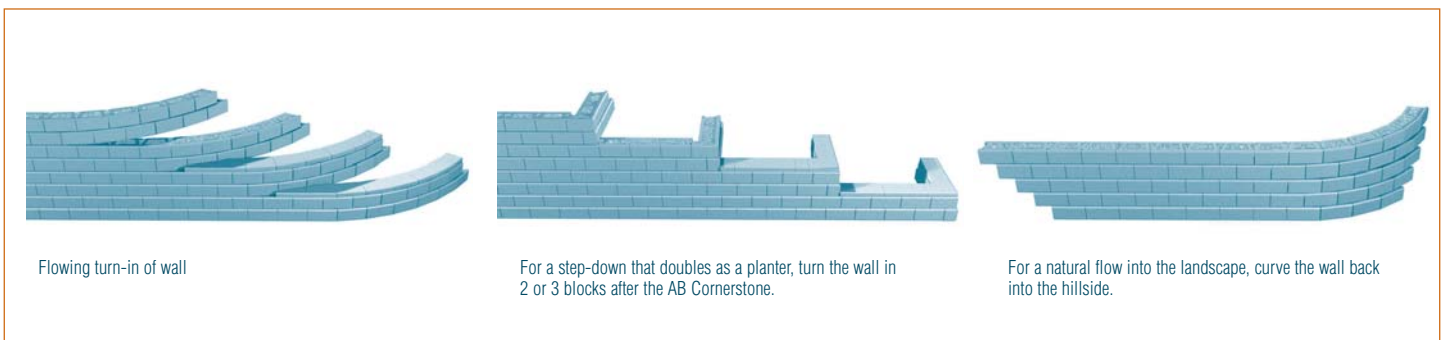

Figure 13: Final Grading & Topping Off the Wall Options
Walls with step down can be easily finished by turning the ends back into the hillside (Figure 13), or using a cornerstone with a split end as the last unit before step down.
- Erosion at the end of the wall can be prevented by rolling the end of the wall into the bank (Figure 13). As a general rule bury 500mm of block into the hillside to prevent potential problems.